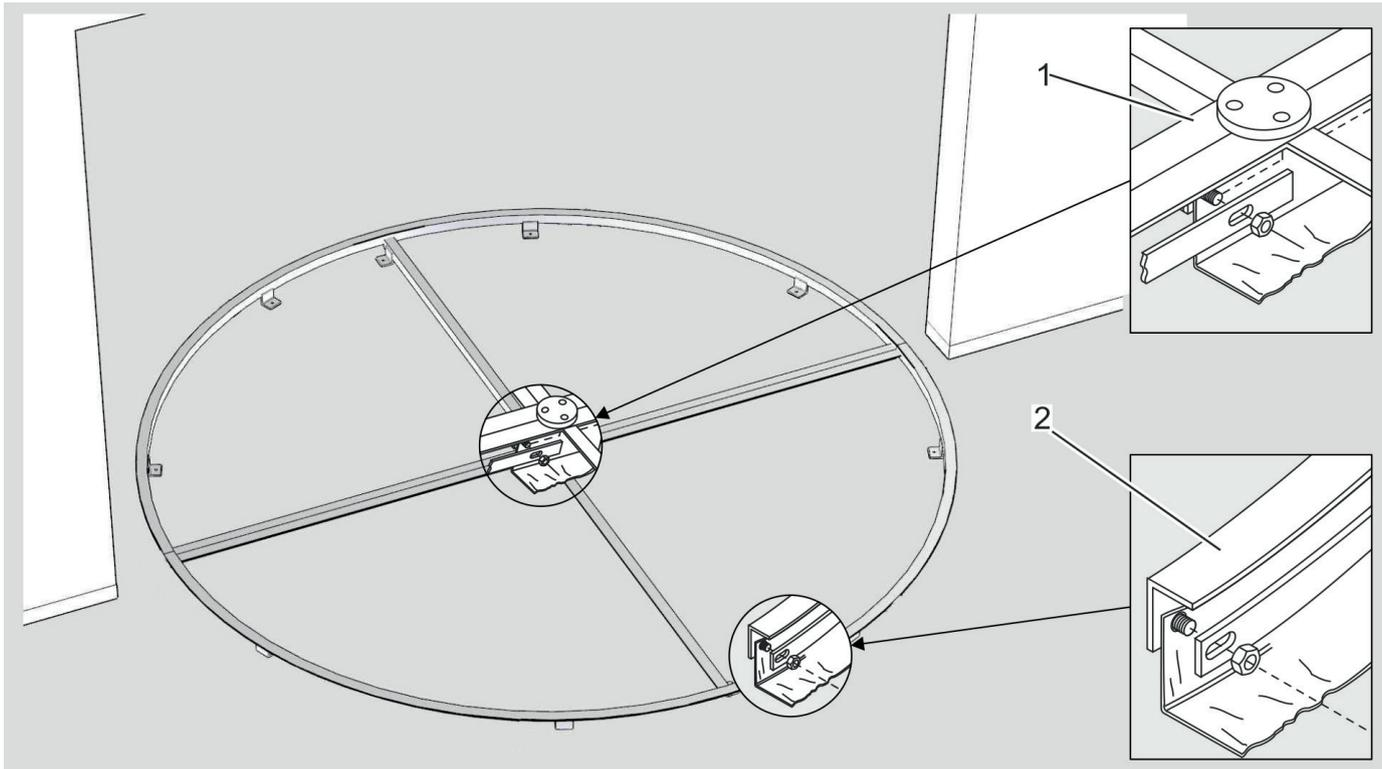

Fig. 33 Sealing the floor ring
1. Seal floor ring with clamping flange in the center or on the outer circumference, depending on variant (Fig. 33/1 or 2).